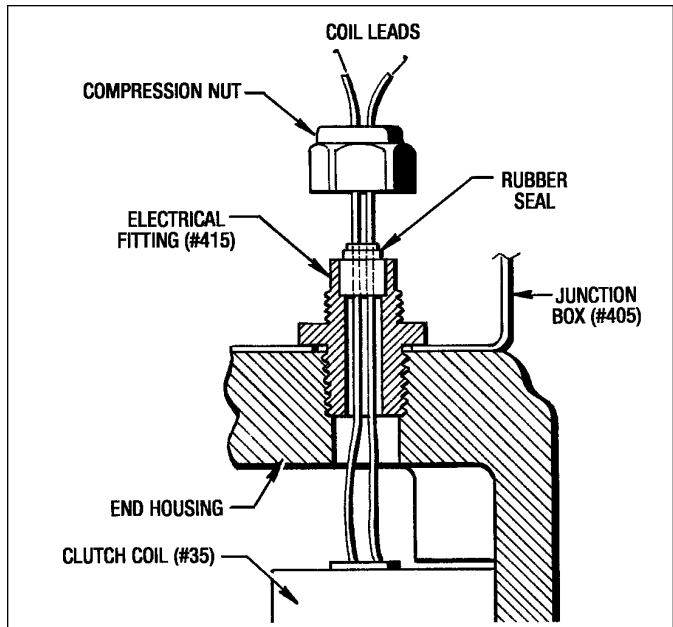

Figure 7.3 - Installing Coil Wires
NOTE: The (2) coil leads are fairly difficult to pull out of the Electrical Fitting (#415) because of the rubber seal, so pry the rubber seal out of the fitting and pull it off of the coil leads and save for reassembly. (See Figure 7.3)
- Place the rubber seal on the coil leads and pull the wires through, taking up all the slack in the wires. Seat the rubber seal into the threaded part of the Electrical Fitting (#415). Tighten down the compression nut. (See Figure 7.3)
The (2) coil leads are fairly difficult to pull out of the Electrical Fitting (#415) because of the rubber seal, so pry the rubber seal out of the fitting and pull it off of the coil leads and save for reassembly. (See Figure 7.3)
2. Assemble the (4) Dyna-Seal Washers (#378) and the (4) Screws (#377). Apply Blue Loctite to the screw threads.
4. Attach the Brake Coil (#335) with the (4) Dyna-Seal Washers (#378) and (4) Screws (#377) prepared in Step #2. **Torque to Specified Torque:**